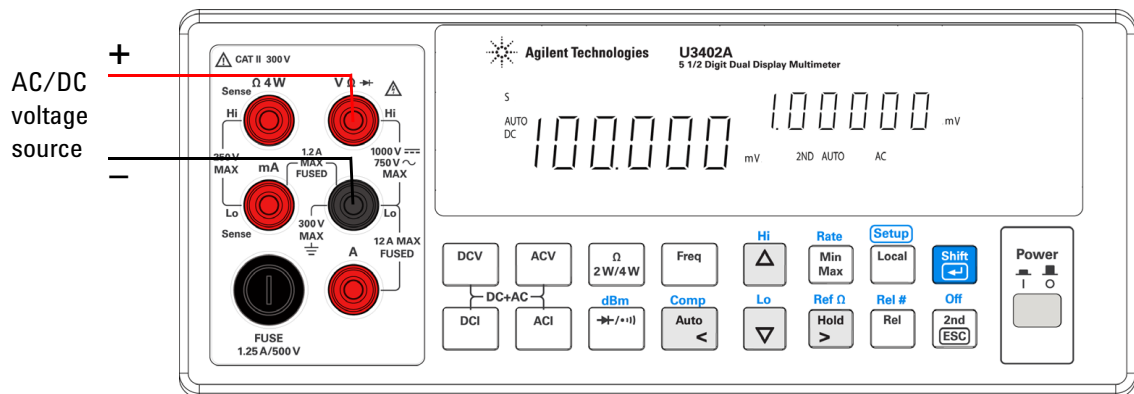

Figure 3-1 Terminal connection when measuring DC voltage and AC ripple on a rectification circuit
- 1 Connect the red and black test leads to the input terminal and probe the test points as shown in Figure 3-1.